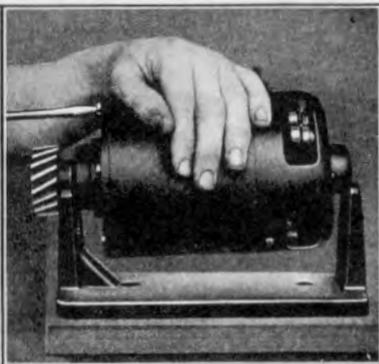

Fig. 451
- 906 Loosen the six generator head to yoke screws and run out screws with fingers (See Fig. 451).